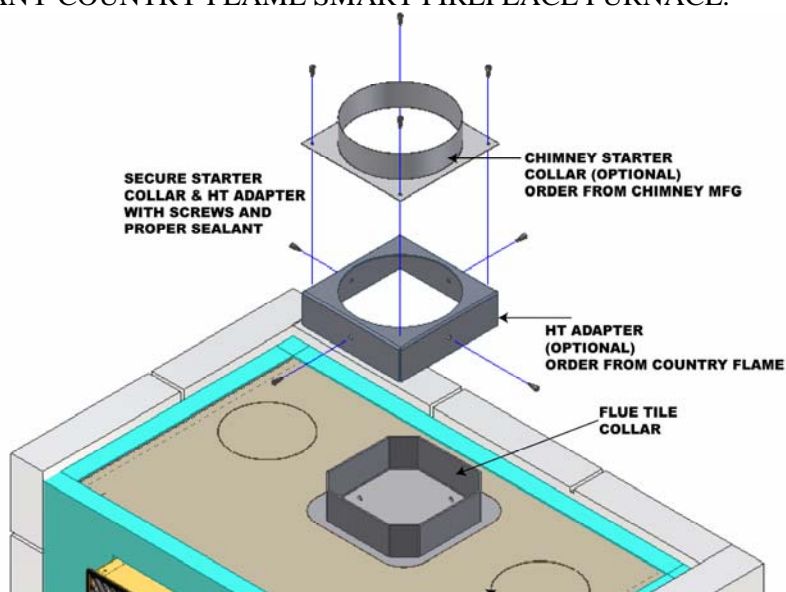

FIGURE 6: TYPICAL HT ADAPTER (optional) INSTALLATION
12. Install the HT Adapter as shown in FIGURE 6. This optional square to round adaptor can be obtained from your Country Flame Dealer or direct from Country Flame. The 4" wide pieces of angle iron are not required across the interior masonry walls when using factory-built insulated chimney materials.
OPTIONAL FLU ADAPTER – Factory-built insulated chimney requires an optional rectangular to round flu adapter collar that is defined in the parts section of this manual. These adaptors can be ordered through Country Flame or its Authorized Dealers. In order to use a manufacturer's chimney starter collar, it must be a minimum 24 gauge black or blued steel. FIGURE 6 shows a typical installation of the Country Flame HT Adapter along with a generic chimney starter collar. The Model 33 or Model 37 fireplace furnace units use the same specific model of the optional HT Adapter while the Model 42 fireplace furnace uses its own specific optional HT Adapter. Do not use other manufacturers rectangular to round flu adapters with the Country Flame Smart Fireplace Furnace. Insulation must be installed on the top and front of fireplace furnace.